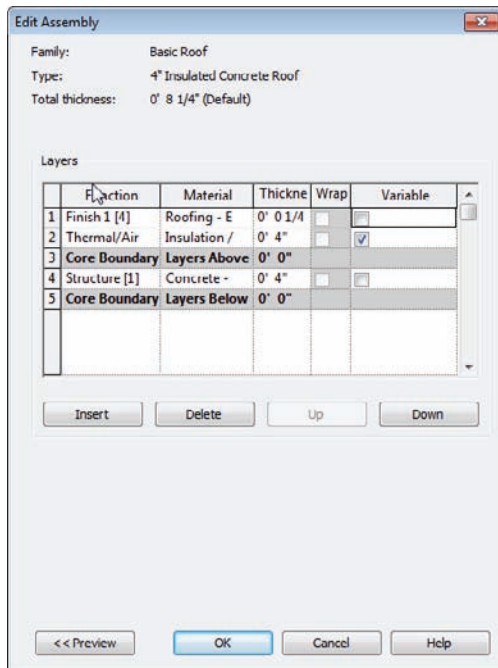

FIGURE 7.6 The completed roof system
21. Change Thickness to 1/4" (6mm), as shown in Figure 7.6.